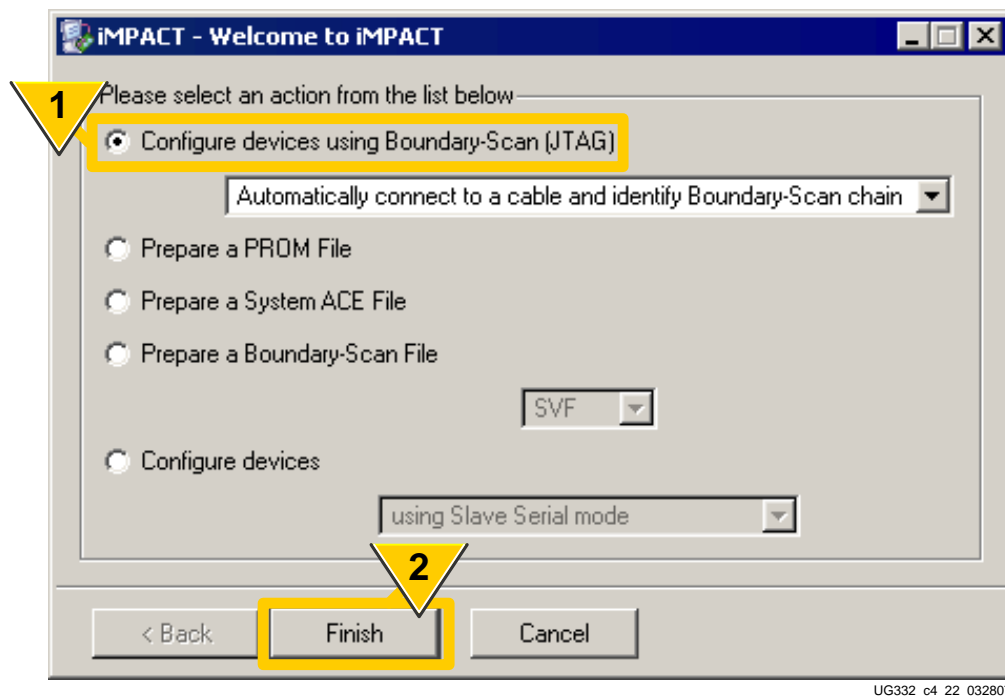

Figure 12-11: Indirect Programming Method Uses JTAG
1. Invoke iMPACT and select **Configure devices using Boundary Scan (JTAG)**, as shown in Figure 12-11.